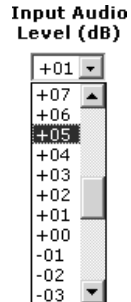

Figure 6-13 — Input Audio Level drop box
4. Click the Input Audio Level (dB) drop box. A drop down scroll box appears (figure 6-13).